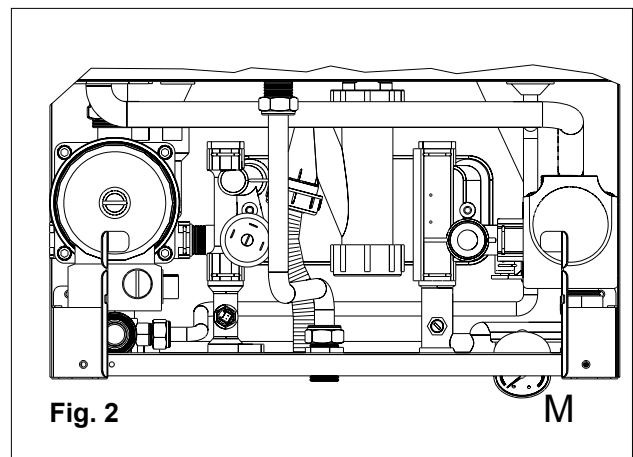

Fig. 2
- Use the pressure gauge **M** (fig. 2) to check that the system pressure reaches 1 bar and that indicator **11** (see 2.7 "Control Panel") lights up.